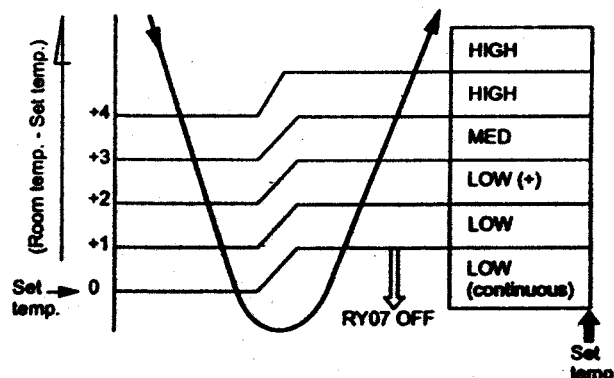

Fig. 8-22 AUTO
- (1) Once the setting is made, the operation mode is memorized in the microcomputer so that the same operation can be effected thereafter simply by pushing the START/STOP button.
- (2) Relay RY07, RY08 is turned on to energize the outdoor unit, and a cool operation is carried out. The indoor fan motor operates as shown in Fig. 8-22 when FAN SPEED button is set to AUTO. The motor operates with a constant air volume as listed in Table 8-2, when the FAN SPEED button is set to LOW, MED, or HIGH.